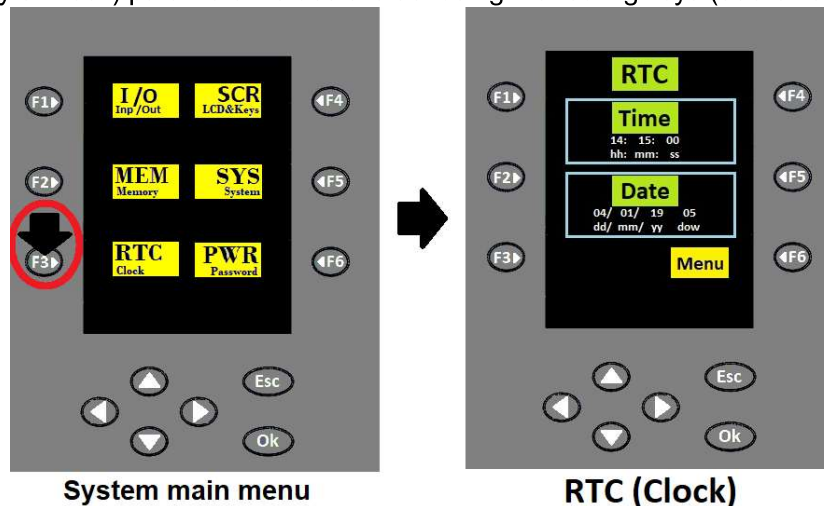

Figure 24 - RTC setup
- As shown in **figure 24**, press “F3▶” the key which is beside the **RTC (Clock)** on the **system main menu** screen to enter the **RTC** menu screen. **RTC** (Real Time Clock), **time** (hh:hour / mm:minute / ss:second) and **date** (dd:day / mm:month / yy:year / dow:day of week) parameter values are set using the routing keys (sub-6 keypad).